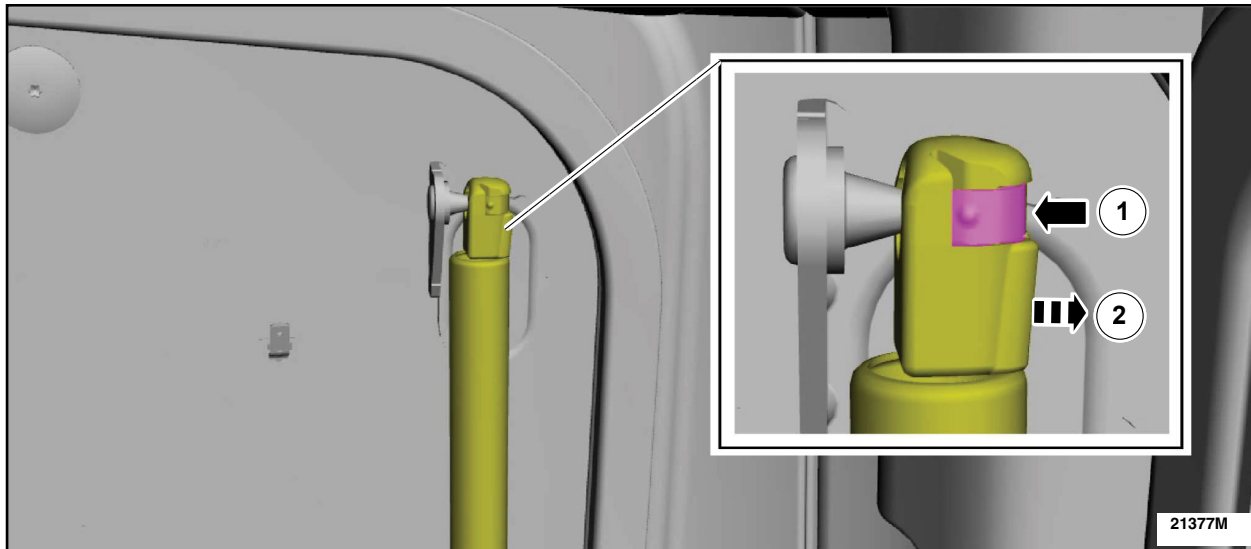

FIGURE 19
6. On both sides release the clips and disconnect the rear liftgate window glass strut. See Figure 19.